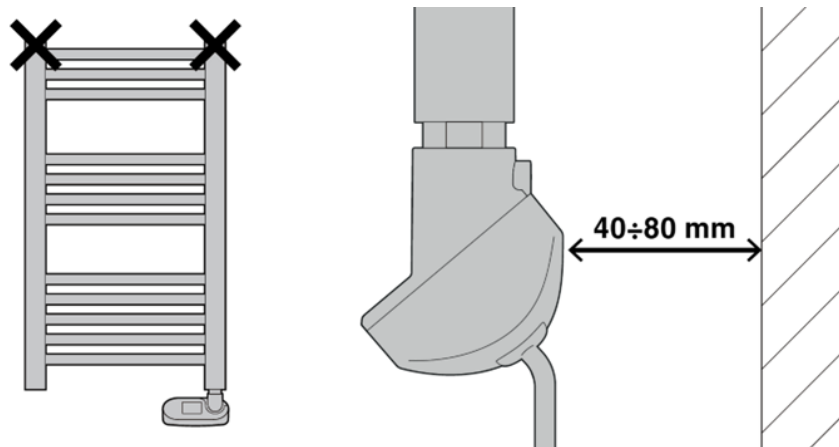

Figure 5 NEO / NEO WIFI positioning
- NEO / NEO WIFI must be installed at distance of 40 mm (minimum) and 80 mm (maximum) from the wall. Figure 5 shows the optimal positions for the NEO / NEO WIFI.
- Make sure that the towel rail can have the NEO / NEO WIFI on the bottom side (Figure 5).